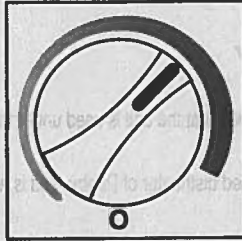

Fig. 15
- When maximum cooling is achieved, turn back the temperature control knob setting to the 2 o'clock position on the graduated blue control dial. See Fig. 15.